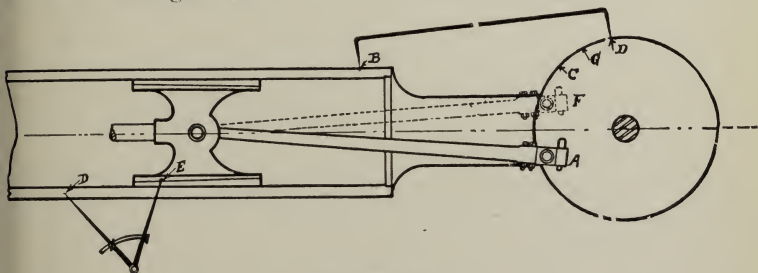

FIGURE 35.
2. Turn the fly wheel until the crank stands a little above center as shown in Figure 35.